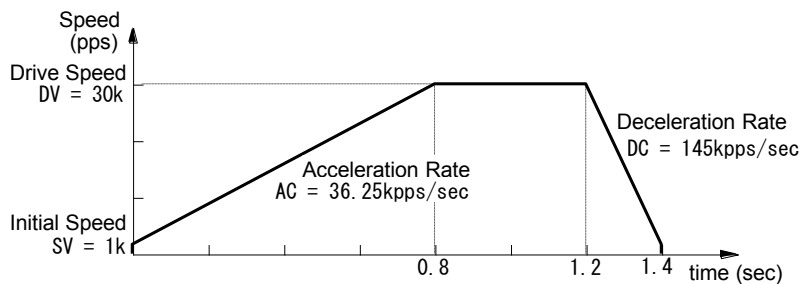
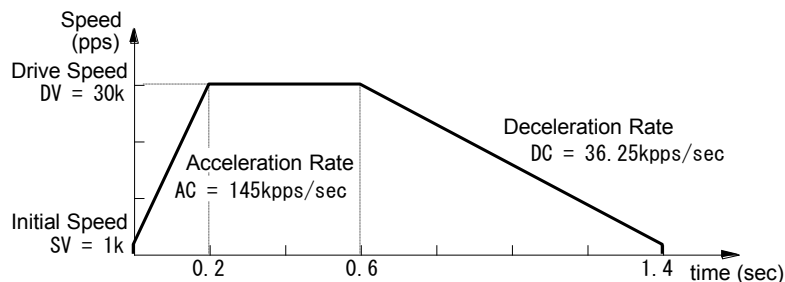

Fig. 2.2-6 Non-Symmetrical Linear Acceleration Driving (acceleration<deceleration)
Fig. 2.2-7 Non-Symmetrical Linear Acceleration Driving (acceleration>deceleration)
This IC can perform automatic deceleration in non-symmetrical linear acceleration/deceleration fixed pulse driving where acceleration and deceleration are different. It is not necessary to set a manual deceleration point by calculation in advance. Fig. 2.2-6 shows the case where the deceleration is greater than the acceleration and Fig. 2.2-7 shows the case where the acceleration is greater than the deceleration. In such non-symmetrical linear acceleration, the automatic deceleration start point is calculated by the IC based on the number of output pulses in fixed pulse driving and each rate parameter.
- In non-symmetry linear automatic acceleration/deceleration driving, when acceleration > deceleration (Fig. 2.2-7), the following condition is applied to the ratio of acceleration and deceleration. In this case, set drive speed 4Mpps or less.
- In non-symmetry linear automatic acceleration/deceleration driving, if acceleration > deceleration (Fig. 2.2-7), the greater the ratio of acceleration AC to deceleration DC becomes, the greater the number of creep pulses becomes (about maximum of 10 pulses when AC/DC=10 times). When creep pulses cause a problem, solve the problem by increasing the initial speed or setting a minus value to the acceleration counter offset.
As shown in Fig. 2.2-6, parameter setting of relative position driving in non-symmetrical linear automatic acceleration/deceleration (acceleration < deceleration) is shown below.